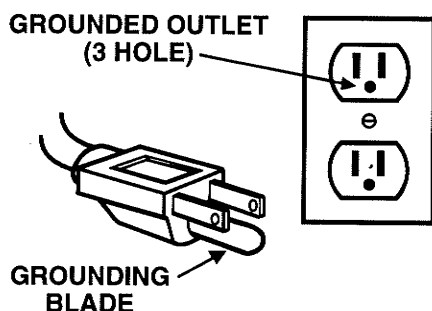

Figure 1
1. For North American models, connect only to a grounded 120 volt A.C. (3 hole) electrical outlet. See Figure 1.